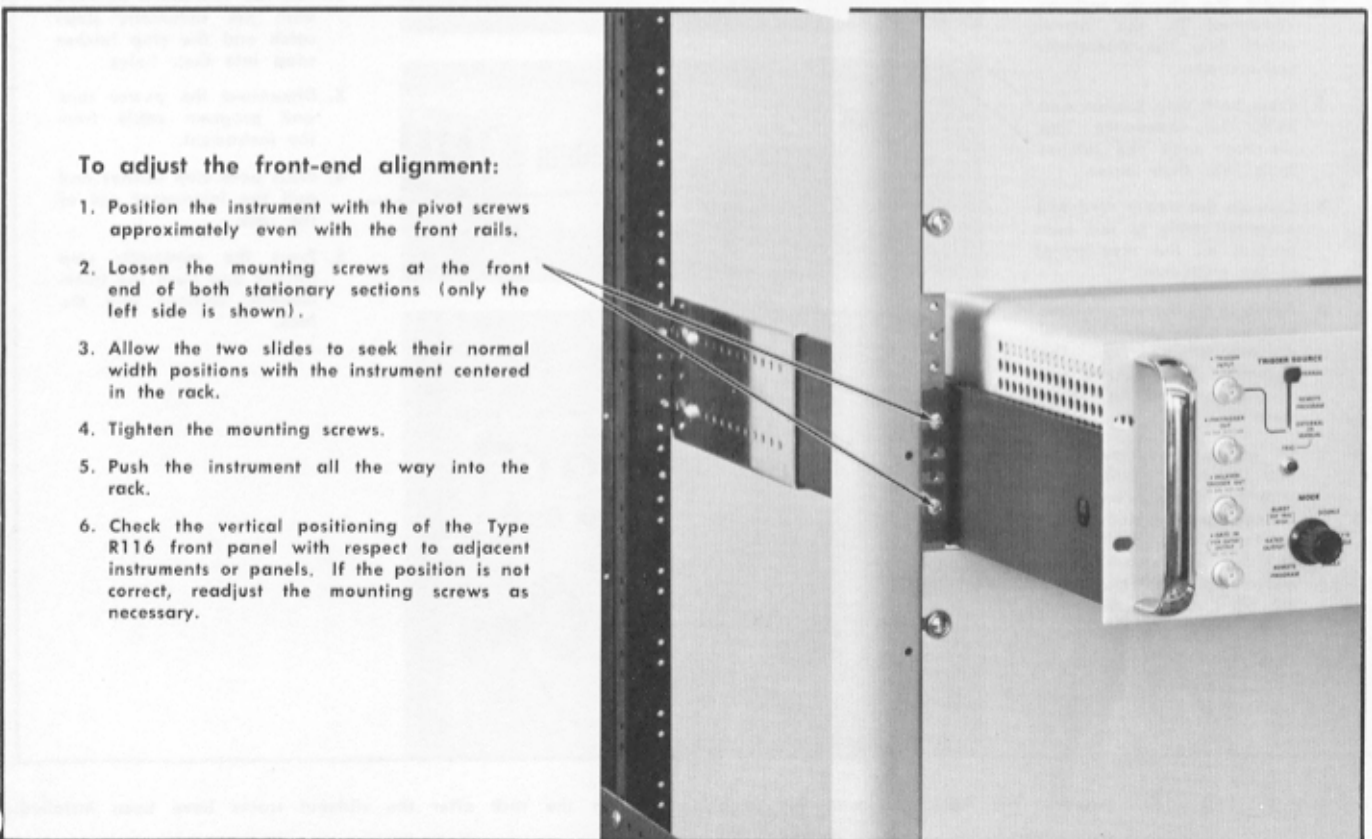

Fig. 7-7 Stationary section front-end adjustments.
1. Position instrument as shown in Fig. 7-7.
2. Adjust the front ends of the stationary sections according to the procedure outlined in Fig. 7-7.